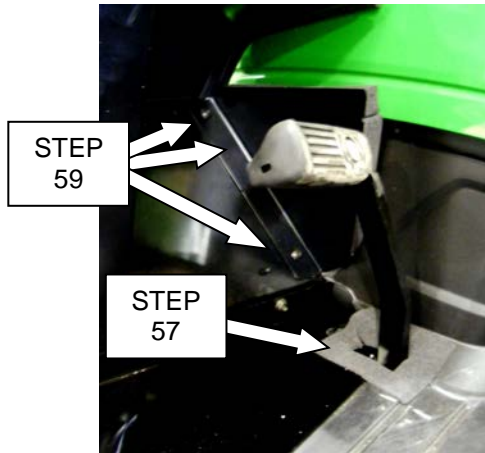

Figure 22
57. Apply one deck seal (16) to deck, at LH pedal area shown in **Figure 22**.
59. Secure LH lower front filler panel (14) to LH cab pedal pocket (5) using (**Figure 22**);